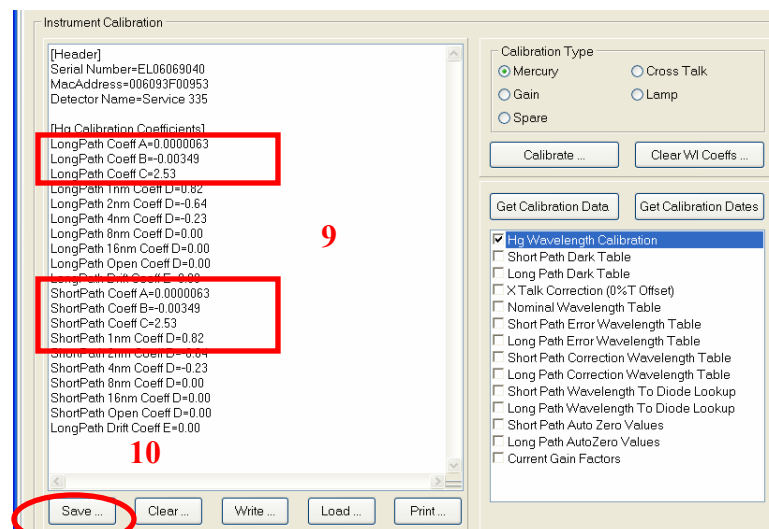

Figure 7: Location of the Calibration Coefficients
- 11) The sticker will show 2 sets of coefficients for Variables A, B, C. If you have a single array detector, you will have all your SP coefficients equal to 0 (since you don't have that array). Insert the sticker coefficients into the Instrument Calibration table (9) (Figure 7).